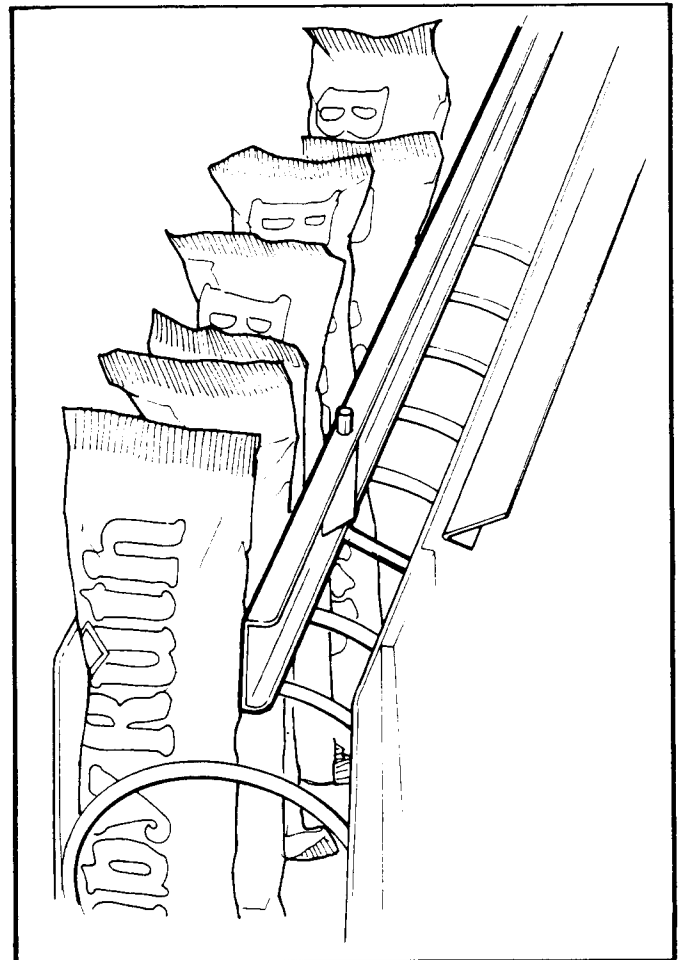

Figure 6. **10 SELECTION SHELF PRODUCT SPACER POSITIONED TO HOLD CANDY UPRIGHT.**
8. **PRODUCT SPACERS—10 SELECTION SHELF:** The 10-selection shelves are equipped with a product spacer (see Figure 6) that can be pivoted from the right side of each product space. These spacers should be pivoted out to hold the product upright, but not tight against the product. Leave about 1/8" clearance between the spacer and the product.